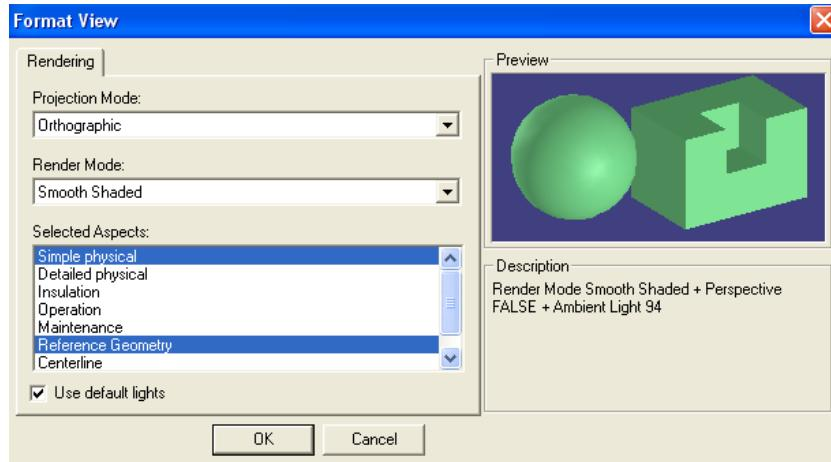

Figure 28: Format View Dialog
- Turn the **Reference Geometry Aspect** on in the Format View dialog and click **OK**, as shown in Figure 28.